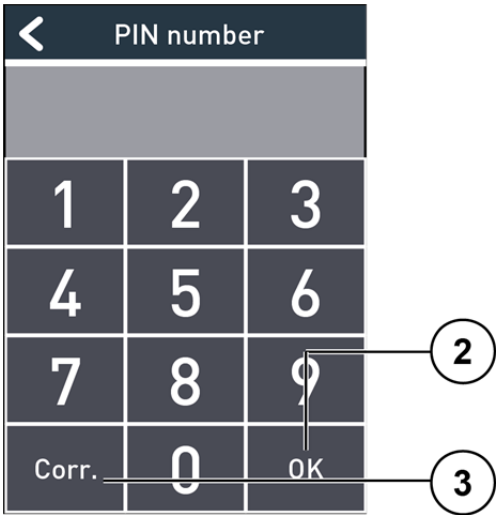

Fig. 27: Input of access codes
- ▶ Tip the access code field (1).
- ▶ Correct your input with the *Corr.* button (3).
- ▶ Confirm your input with *OK* (2). If the access code is correct, access is granted (Fig. 27).